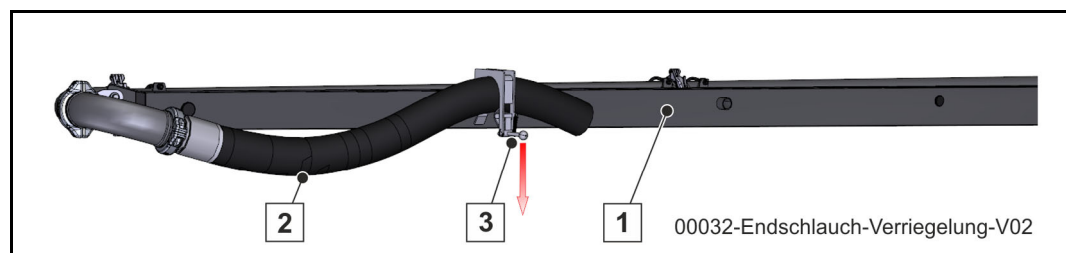

Fig. 188 End hose lock
- Hold the last placing boom section (1) close to the ground in a horizontal position and release the end hose (2) with the lever (3) (**Fig. 188**). There may be several end hose locks, depending on the equipment.